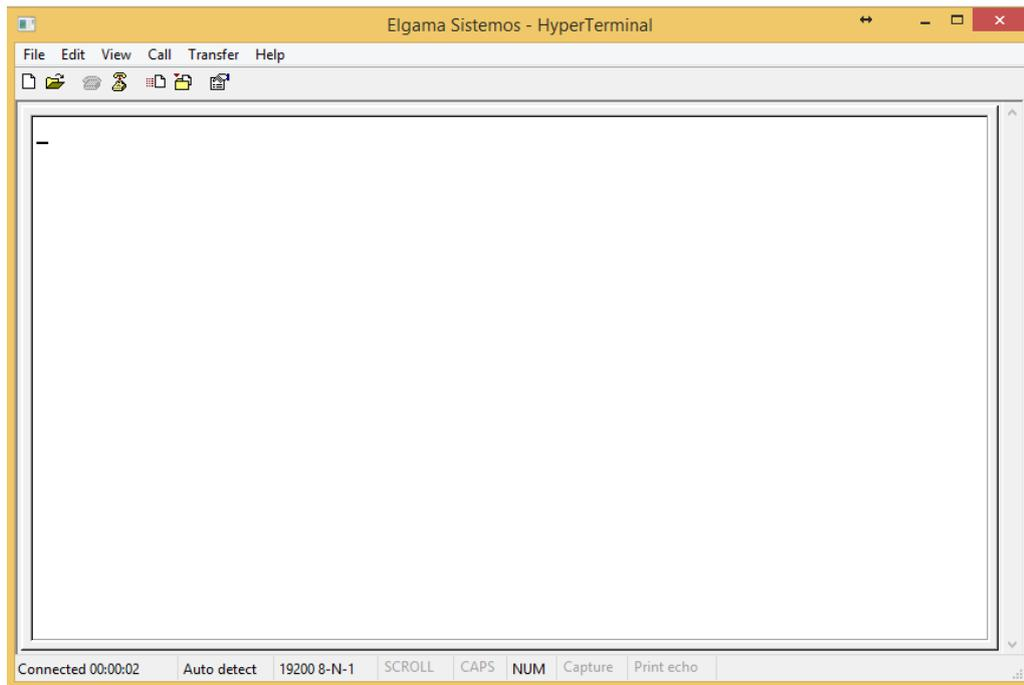

Figure 6.2-8
6. The settings should change to 19200 8-N-1 as shown on figure 6.2-8